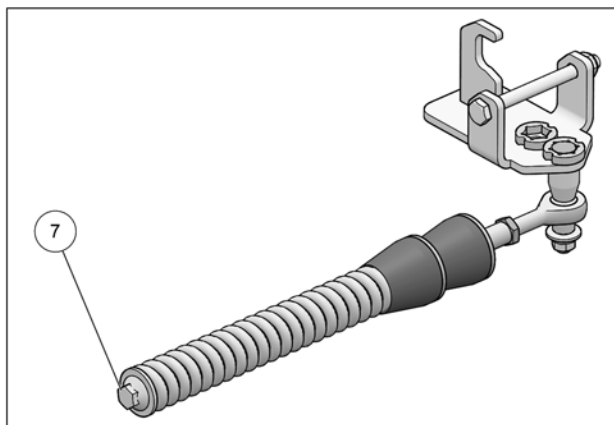

Fig. 11
10. Verify that spring assembly bolt (7) is tightened to the recommended torque specification: 75 N•m [55 lb•ft]. Refer to Fig. 11